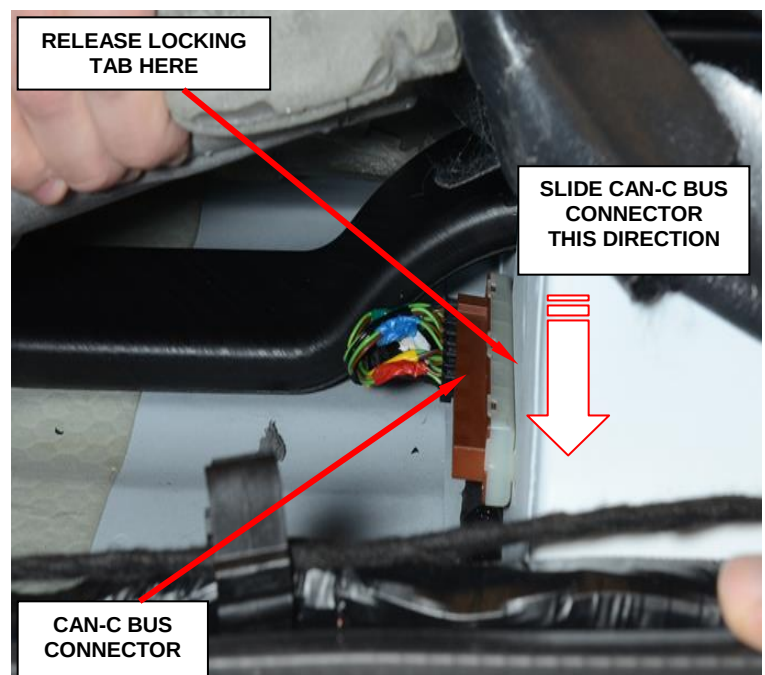

Figure 4 – CAN-C Bus Connector
9. Lift up carpet or rubber flooring and floor insulation in front of seat riser and position to the side (Figure 4).
10. Slide CAN-C Bus connector toward the driver's side of vehicle while releasing the locking tab to unhook from seat riser (Figure 4).